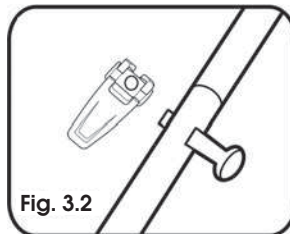

Fig. 3.2
- ✿ Connect the top and bottom part of the handle using the included screws and nuts with quick coupler levers. Figure 3.2